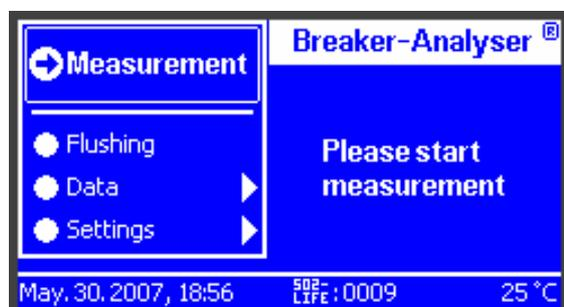

Fig. 6.04
Before starting measuring the transport protection of the SO₂-Module has to be removed and the module has to be inserted (See chapter 6.1). As soon as the device is switched on, the start screen appears (ill. 6.02). After a short initialization time the component check follows. The correct function of each component is confirmed or indicated by the “✓”-mark. (ill. 6.03). In case a component is not ready for operation or not inserted it is indicated by a cross. At the end of the successful initialization process, the base menu (fig. 6.04) turns up. All functions of the SF₆-Breaker-Analyser are accessible through this menu.
1. To carry out a measurement, click on "Measurement" in the corresponding "Measurement" submenu (see fig. 6.04). The test time of the SF₆ gas can be defined by the operator or turned off under the menu point "Settings" (see chapter 6.5). Recommended test time of the SF₆-Breaker-Analyser is typically 7 minutes. Turning off a defined test time allows the operator to save the displayed sensor values at any time.
After measuring a SF₆ sample with a SO₂ concentration above zero the SO₂-sensor has to be purged with ambient air to clean and reset the value to 0. Therefore leave the SF₆-Breaker-Analyser turned on and execute “Flushing” in the main menu (fig. 6.04). The pump inside the SO₂-module starts rinsing ambient air through the SO₂-sensor. This process should not be stopped until the SO₂-sensor has reached **0 ppm_v** again in order to secure a precise reading of the next measurement. The pumping process can be stopped or aborted by pressing “Close” by the operator. The SF₆-Breaker-Analyser is again ready for operation.